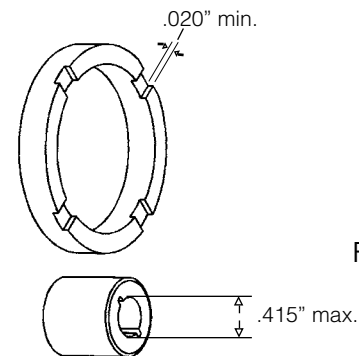

Figure 5
1. Check impeller bushings (item 8A) in both the impeller assembly (item 8) and the impeller drive shaft (item 3), check both thrust rings (item 2A), both ceramic housing rings, and both the barrier ceramic post and the first stage impeller housing ceramic post for cracks, chips, scoring or excess wear. See figure 5. Replace as required.